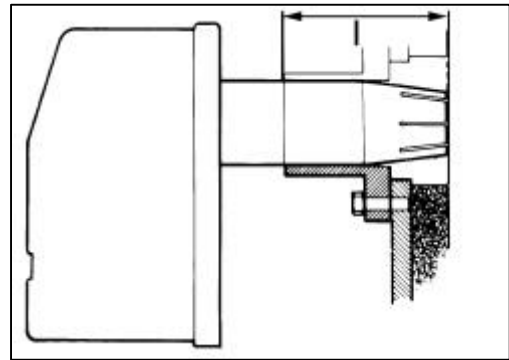

Figure 8
- 3.1. Measure and set the distance from the back of the gasket mounted behind the mounting plate, to the front of the flange using the table below and figure 8;
- 3.3. Push the flame tube gently in place up to the scribed position (see figure 8).